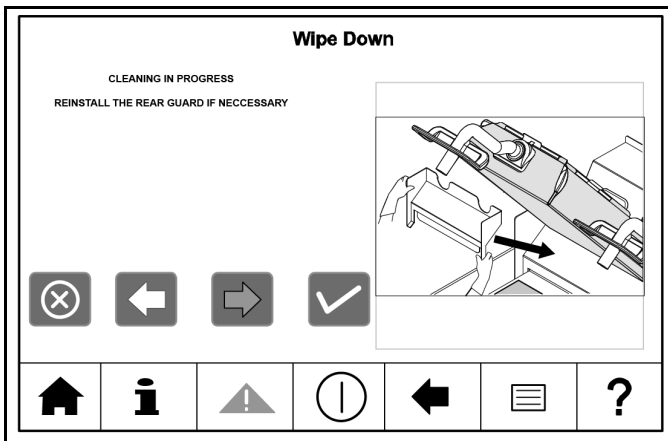

Figure 6-21
3. Remove the rear grease shield from the grill. Clean and install the rear grease shield. See Figure 6-21